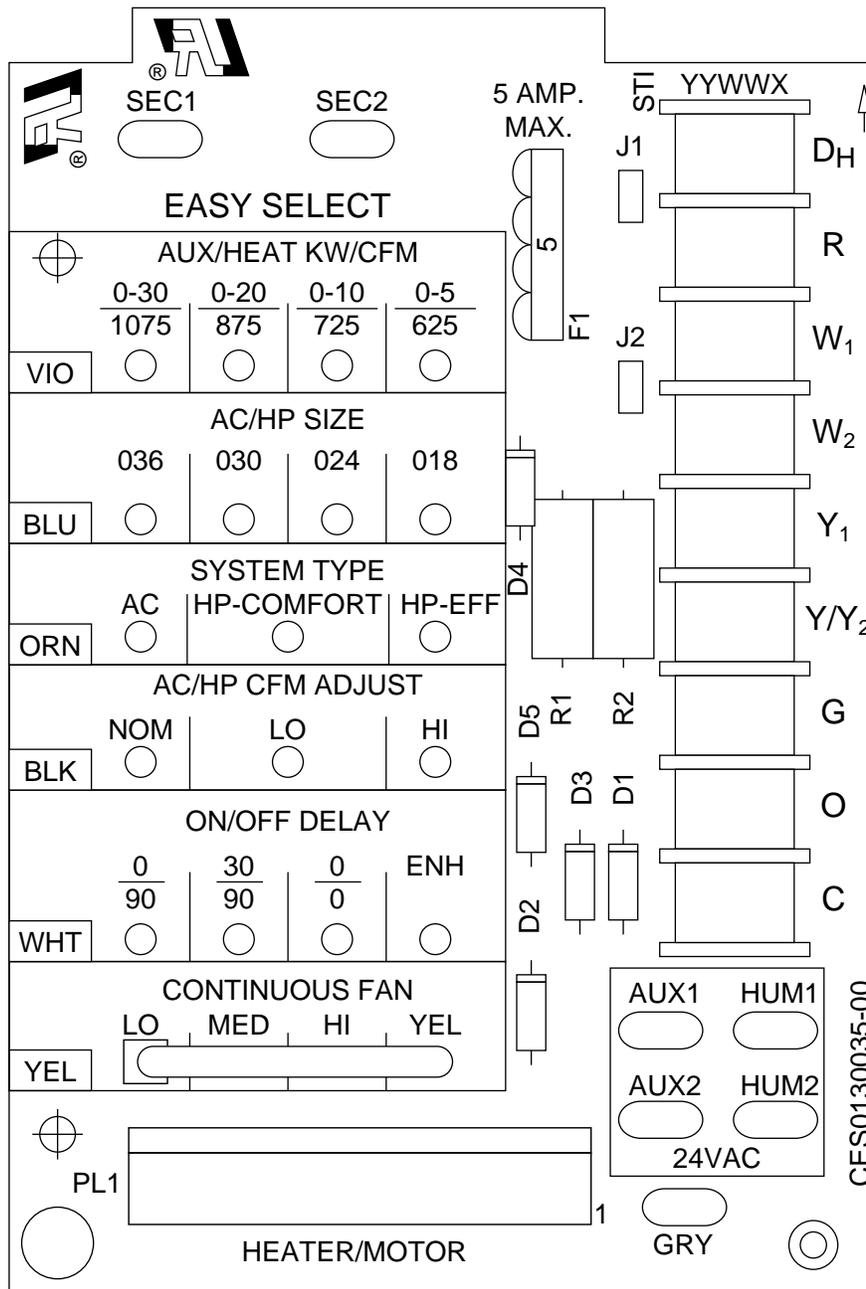

Fig. 24—Easy Select Board
NOTE: Layout of actual PCB is depicted in Fig. 24 and 25.
The Easy Select taps are used by installer to configure system. The ICM2 uses selected taps to modify its operation to a pre-programmed table of airflows. Airflows are based on system size or mode of operation and those airflows are modified in response to other inputs such as the need for de-humidification. (See Fig. 24.)
skip this step. Each select pin is marked with a range of heaters for which airflow (also marked) is approved. For increased comfort select the narrowest kw range matching the heater size, for example, 0-10 for a 10-kw heater. This airflow must be greater than the minimum CFM for electric heater application with the size system installed for safe and continuous operation. Note that airflow marked is the airflow which will be supplied in emergency heat mode and heating mode on air conditioners when electric heat is primary heating source. To ensure safe heater operation in heat pump heating mode when electric heaters are energized, the ICM2 will run the higher of heat pump airflow and electric heater airflow. The factory selection is largest heater range approved. (See Fig. 24.)
The factory setting for air conditioner or heat pump size is largest unit meant for application with model of fan coil purchased. The installer needs to select air conditioner or heat pump size to ensure that airflow delivered falls within proper range for size of unit installed in all operational modes. (See Fig. 24.)
The factory setting is AC. (See Fig. 24.)
Select low, nominal, or high airflow. To provide any of these airflows, AC/HP ADJUST select must be moved to NOM position. The factory selection is NOM. The adjust selections HI/LO will regulate airflow supplied for all operational modes, except non-heat pump heating modes, +15 percent and -10 percent respectively. The adjust selection options are provided to adjust airflow supplied to meet individual installation needs for such things as noise, comfort, and humidity removal. (See Fig. 24.)
Select desired time delay profile. Four motor operation delay profiles are provided to customize and enhance system operation. (See Fig. 24.) The selection options are:
Select desired Continuous fan profile LO, MED, or HI. Airflow are provided to customize and enhance the continuous fan functions. (See Fig. 24.) The possible selections are:
- Check low-voltage transformer leads (red and brown). Be sure they are wired to correct locations. (See Fig. 24 and 26.)
- Check low-voltage fuse shown in Fig. 24. If fuse is blown, replace it. The transformer cannot supply power to board with fuse blown or loose. If fuse blows when unit has power applied to it, the system most likely has 1 of the following problems:
- Check voltage to sequencer. Sequencer number 1 receives a 24-vac signal. If it is receiving correct voltage, check to see if sequencer is closing. If sequencer is not closing but is receiving correct voltage, replace sequencer. If sequencer is closing, check high-voltage wiring as discussed in items 1 and 2.